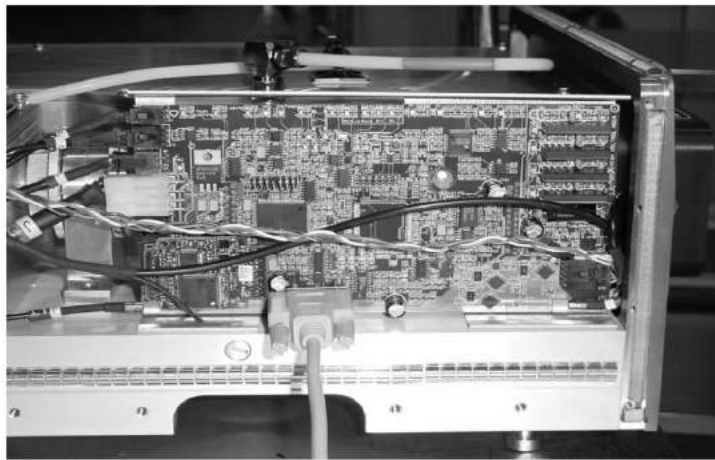

Figure 5.4-5. RS-232 Connection to Chameleon Head Board
2. Connect the serial cable to the Chameleon Head board. See Figure 5.4-5.